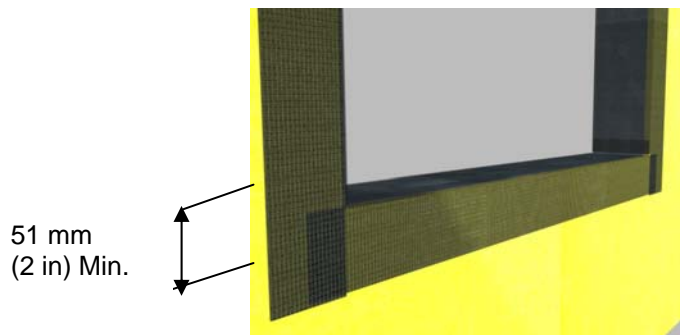

Figure 3
- 4) Install the AquaFlash System at the jambs in the same manner extending 51 mm (2 in) above the head and overlapping onto the sill material a minimum of 51 mm (2 in) – Figure 3.